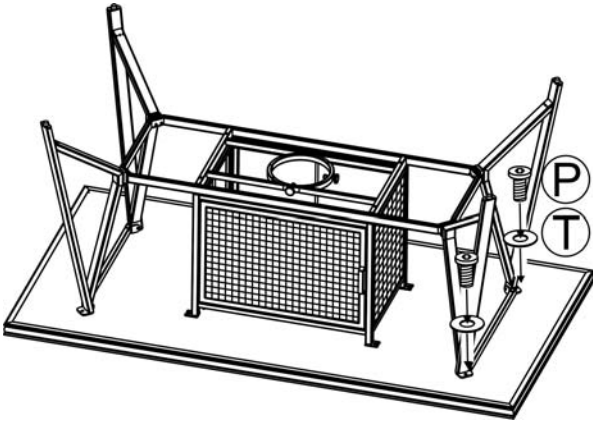
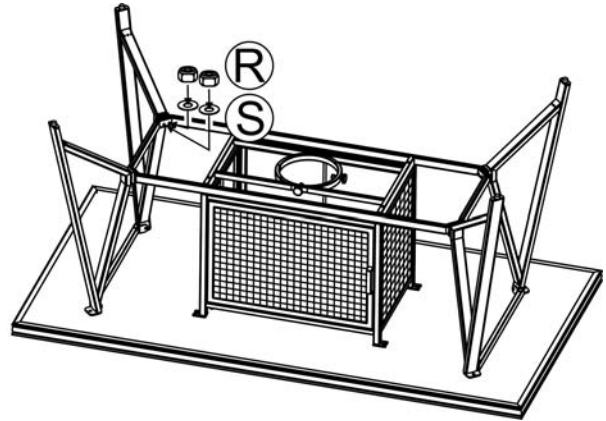

Figure 5a
Figure 5b
5. Attach the complete leg to the firepit tabletop by using two 1/4"x20 mm bolts and Ø20xØ6.5x2.0mm washers as shown in Figure 5a. Hand tighten only 2-3 turns. Attach the complete leg to the leg connector bracket by using two 1/4"nuts and Ø6.5x1.0 mm washers as shown in Figure 5b. Hand tighten only 2-3 turns. Repeat for the other complete leg.